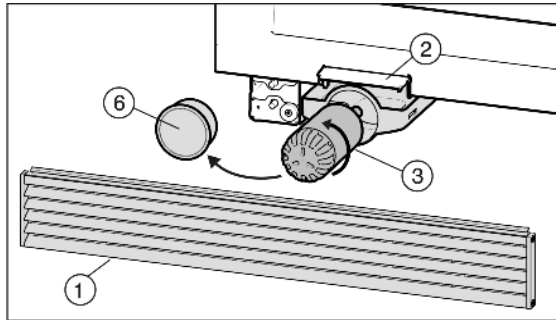

Fig. 6
- ▶ lift the ventilation grid Fig. 6 (1) up and pull out.
- ▶ Open the filter change flap Fig. 6 (2).
- ▶ Pull the water filter carriage Fig. 6 (3) out.
- ▶ Remove the filter cover Fig. 6 (6).
- ▶ Turn the water filter Fig. 6 (3) about 100° anti-clockwise and pull out.